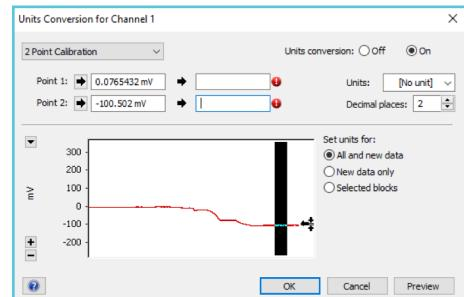

Figure 74.
Step 10: Mark out the new position of the trace that corresponds to 1.05 mm and click the arrow for 'Point 2' (figure 74).